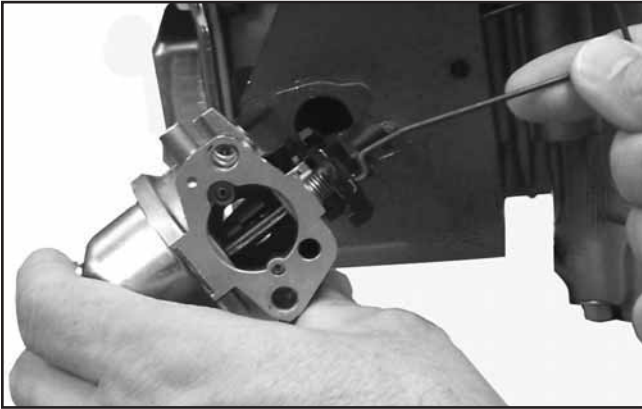

Figure 10-46. Attaching Choke Linkage.
1. With the carburetor not yet mounted on the studs, rotate it slightly and slot the elbow, at the end of the linkage, into the choke lever. See Figure 10-46.